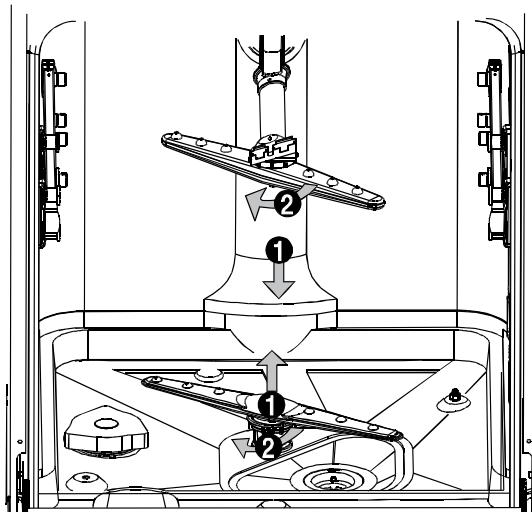

Fig. 15
- If necessary, unscrew and remove the arms (Fig. 15). Rinse them under running water and reinstall them.